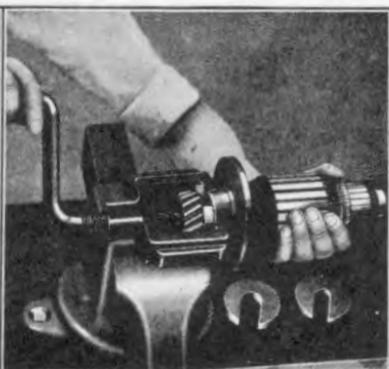

Fig. 454
- 909 Withdraw pinion from generator shaft by means of a puller (See Fig. 454).